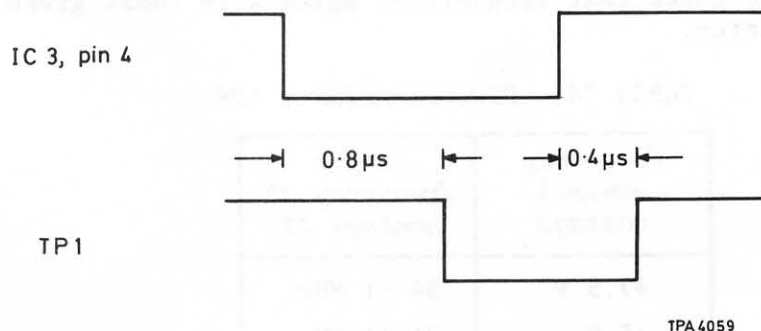
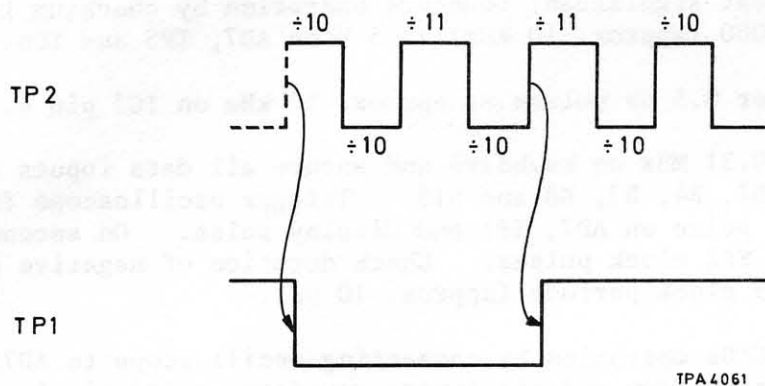

Fig. 8 Modulus selection - AD7
Fig. 9 Dual modulus operation - AD7
(1) Remove twisted pair to board AD8 input and connect AD8 socket to earth to supply 0 V control voltage. Connect counter to AD7, 1 and check for 39.5 MHz ± 1 MHz at -10 dBm.
(2) Enter 10.12 MHz on keyboard and using oscilloscope check that AD7, B4 to B17 are all low (-7.5 V) and AD7, B18 is high (+7.5 V).
(3) Check input amplifier TR1 and TR2 operation by checking for e.c.1. threshold voltages of -1.1 V and -1.5 V on pin 1 IC1.
(4) Check prescaler operation by checking for v.c.o. frequency ± 10 (approx. 4 MHz) on IC1 pin 11, and v.c.o. frequency ± 20 (approx. 2 MHz) on IC2 pin 9. Levels 0 V and -5 V.
(5) Check IC6 operation by checking for v.c.o. frequency $\pm 20 \pm 7.5$ V on AD7, TP2 and TP3.
(6) Check divide by five operation by checking for v.c.o. frequency ≈ 100 (approx. 400 kHz) ± 7.5 V on AD7, TP4.
(7) Check most significant counters operation by checking for v.c.o. frequency ≈ 4000 (approx. 10 kHz) ± 7.5 V on AD7, TP5 and TP6.
(8) Check for 0.5 μ s pulses at approx. 10 kHz on IC3 pin 4.
(9) Enter 10.31 MHz on keyboard and ensure all data inputs are low except for AD7, B4, B7, B8 and B18. Trigger oscilloscope from negative edge of pulse on AD7, TP1 and display pulse. On second trace display AD7, TP2 clock pulses. Check duration of negative pulse equates to 19 clock periods (approx. 10 μ s).
(10) Check IC10a operation by connecting oscilloscope to AD7, TP1 and while triggering from and displaying waveform on IC3 pin 4, check that display approximates to that shown in Fig. 8.
(11) Ensure prescaler now dividing by 21 by counting 21 input pulses on IC1 pin 1 during one complete cycle of IC2 pin 9.
(12) Enter 10.14 MHz on keyboard and ensure all data input contacts are low except AD7, B5 and B18. Connect oscilloscope input to AD7, TP2 and trigger from and display negative pulse on AD7, TP1. Check that after AD7, TP1 goes low, widths of first two pulses (indicating $\div 11$) on AD7, TP2 are slightly greater than widths of remainder of pulses (indicating $\div 10$). Check that rising edge of second of these pulses terminates negative pulse (see Fig. 9). Disconnect oscilloscope and reconnect twisted pair.